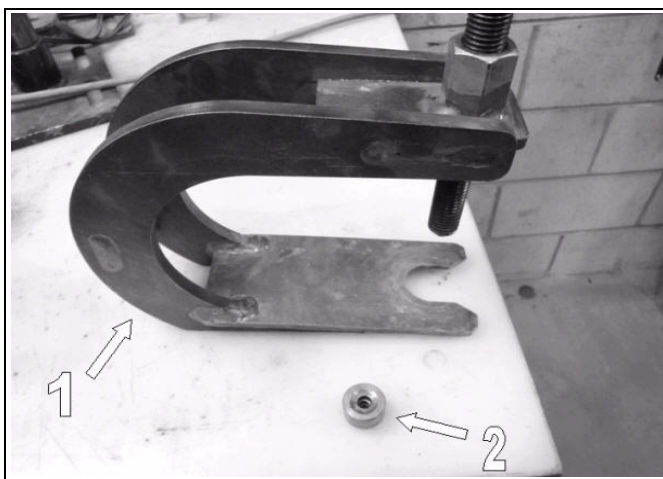

Figure 20
Use Tatou extractor # 2000-00-1050 (article 1, figure 20), and the following procedure to make the replacement:
- If there is no bolt, use the alignment sleeve (article 2, figure 20) to locate the extractor.